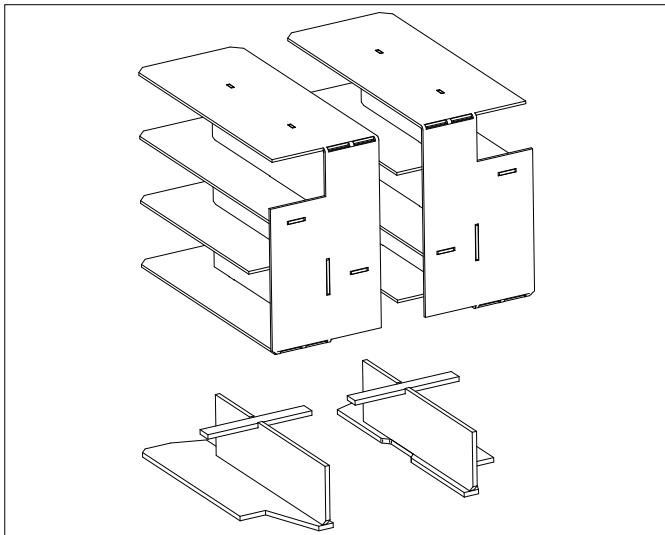
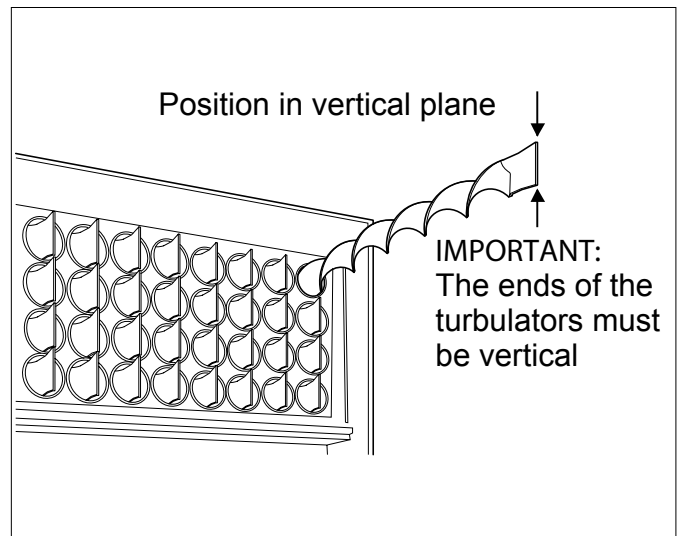

Figure 11-1: Baffles (15-26 models)
Figure 11-4: Turbulators
2. Remove the baffles as shown in Figures 11-1 to 11-3.
6. Replace the baffles, ensuring they are correctly fitted. Refer to Figures 11-1 to 11-3, as appropriate. Pull out the spiral turbulators from the heat exchanger tubes. See Figure 11-4.